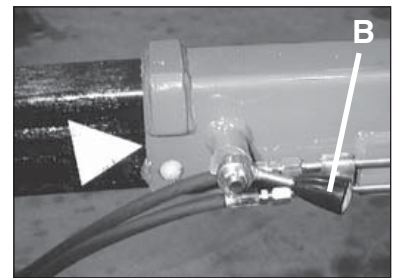

fig. 12
- Position the lever **B** (fig. 12) towards the column; the spring loaded security pin will be released from its position.